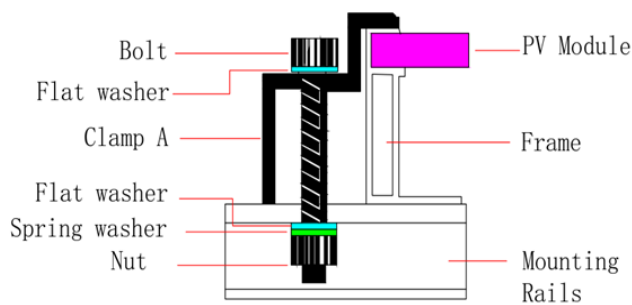

Figure 5
- Clamp material should be anodized aluminum alloy or stainless steel. The mounting details are shown in the following **figure5** and **figure6**.
<p>Figure 5 D-A</p>